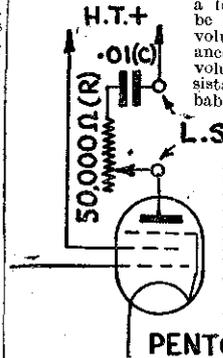

Fig. 2.—How tone is regulated by fitting a resistance and condenser across the load-speaker terminals.
A pentode always does give emphasis to the higher frequencies, but it is not a difficult matter to regulate the tone by fitting a resistance and condenser across the load-speaker terminals, as shown in Fig. 2 given herewith. The resistance (R) should have a value of about 50,000 ohms, and may be either fixed or variable. If variable the tone can be controlled as desired. The condenser (C) should be of about .01 mfd. capacity. When the speaker is fed through a transformer the tone control should be put across the primary winding of the transformer. If choke-capacity feed is employed the correct position is in parallel with the choke.